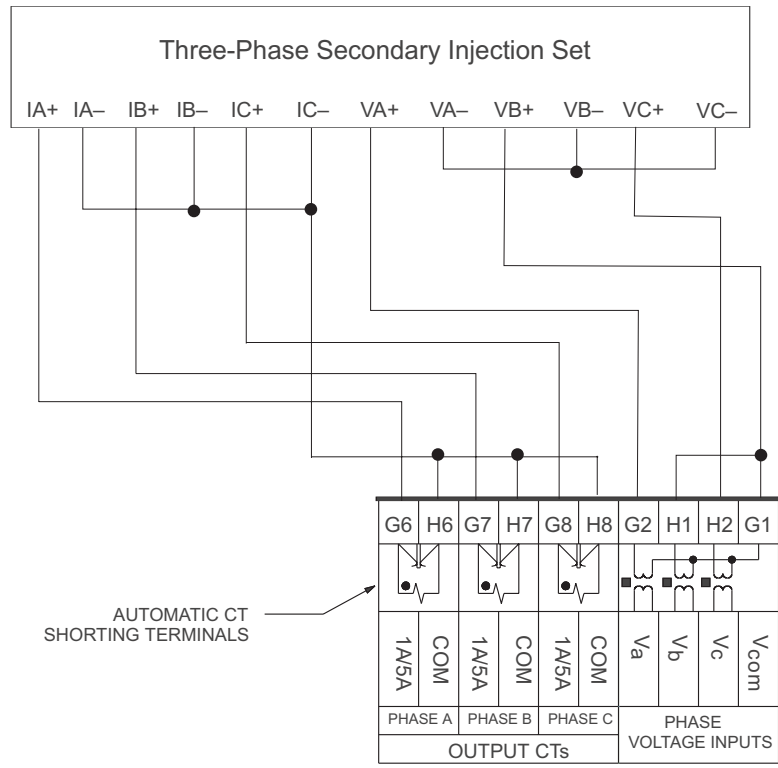

FIGURE 1. Loss of Excitation Commissioning Test Wiring
2. Connect the relay according to Figure 1.